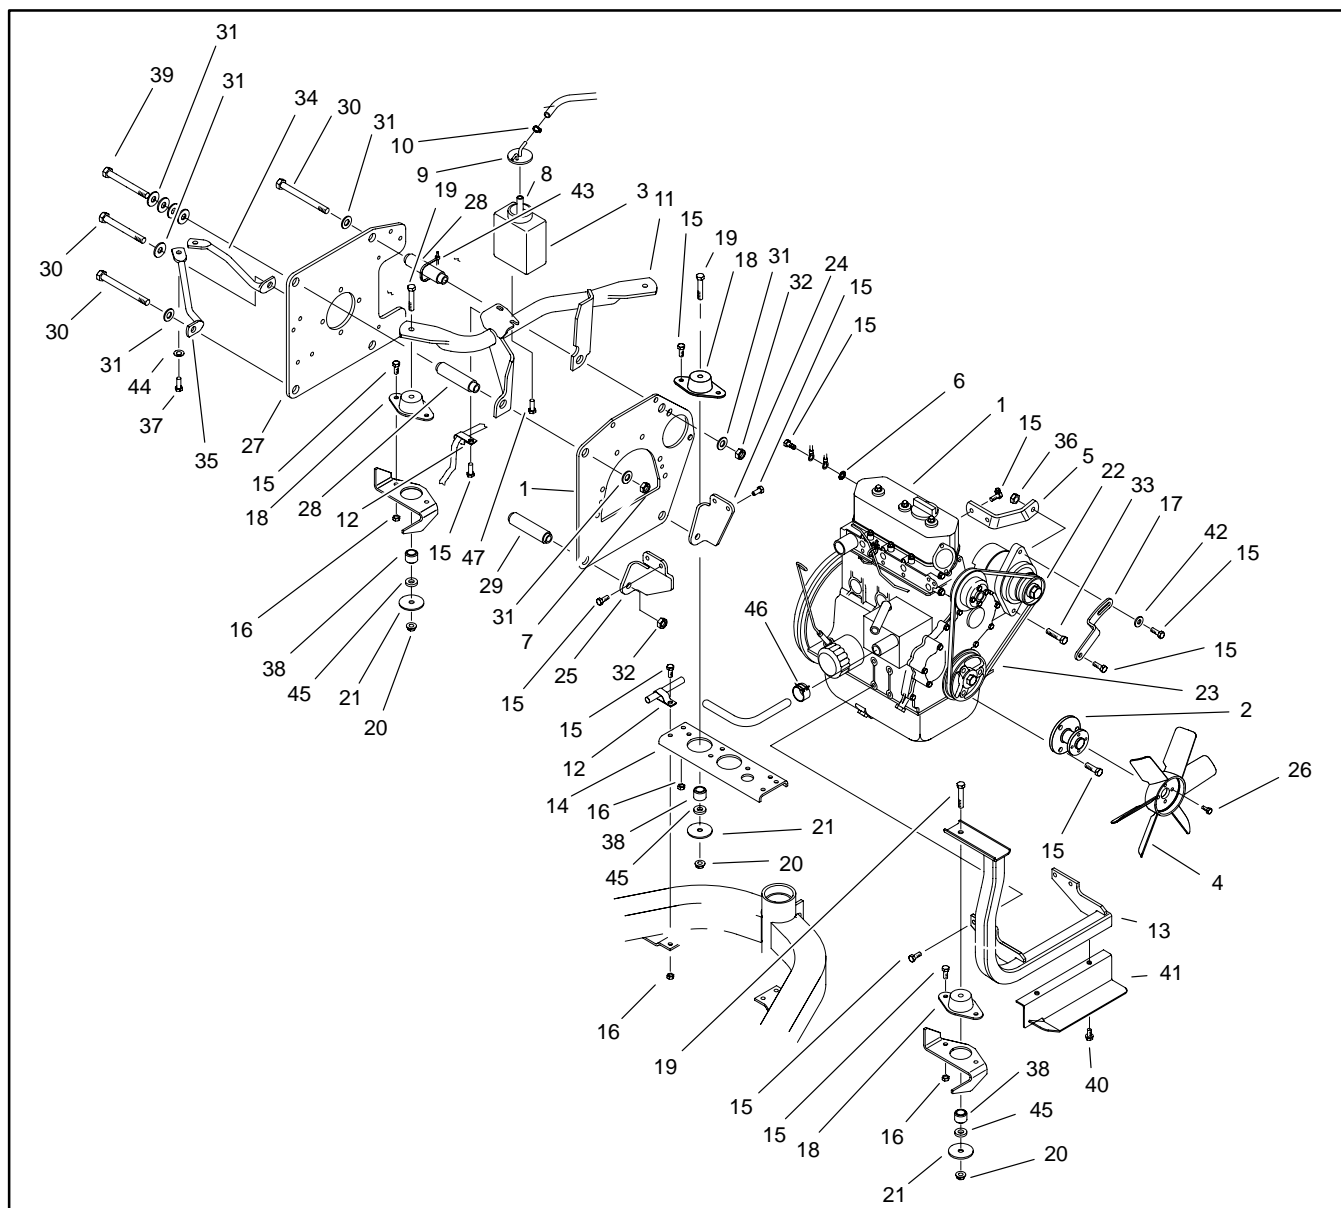

Figure 19
D. Disconnect fuel hose (21) going to the fuel filter/water separator at the fuel shut-off fitting (9) (Fig. 18). Disconnect double hose clamp (12) from fuel hose (48) and rear engine mount (11) near the overflow tank (Fig. 19).